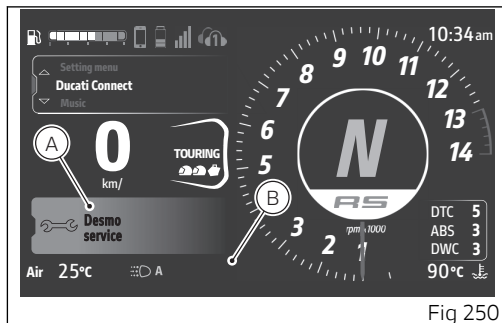
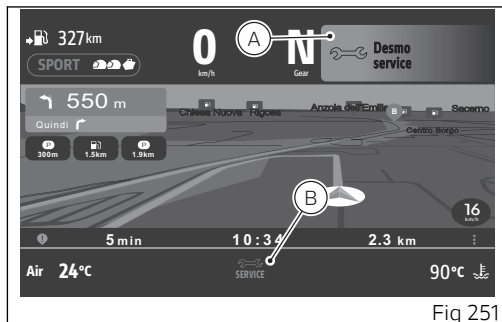

Fig 250
Fig 251
Service coupon deadline warnings are displayed in 2 modes: big (A) and small (B). These figures indicate the corresponding positions in the main page (Fig 250) and in the Ducati Connect page (Fig 251).